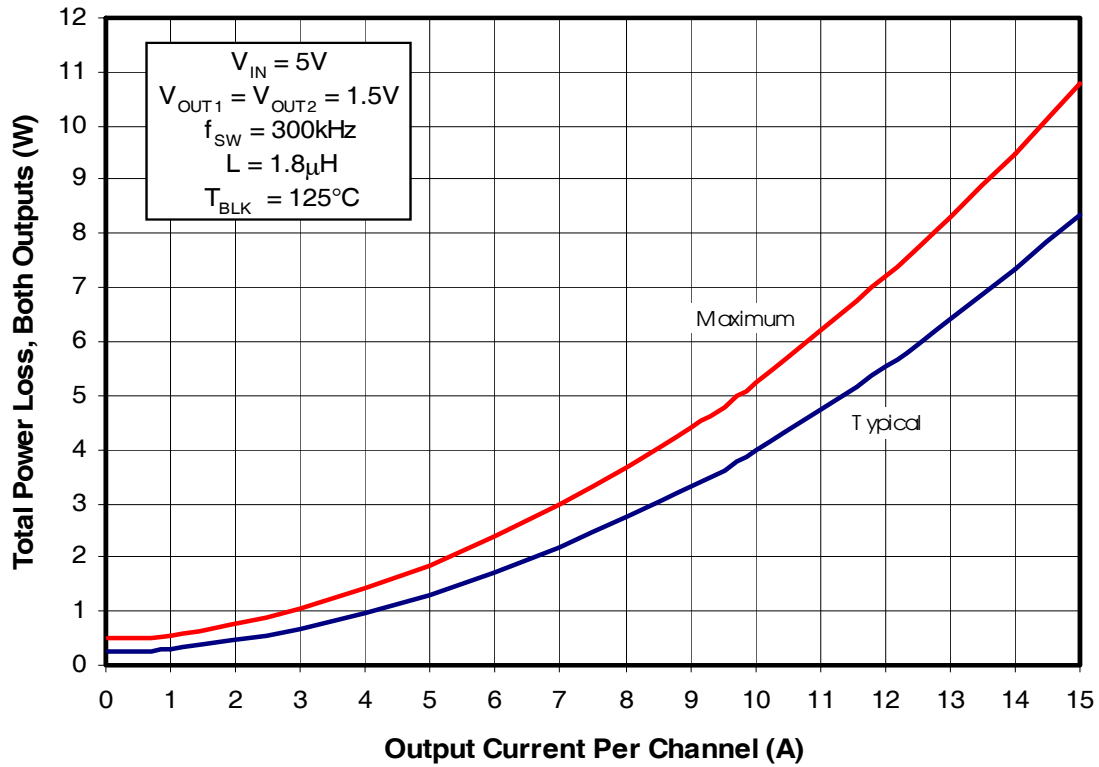

Fig. 2: Power Loss vs. Current
To make adjustments to the power loss curves in Fig. 2, multiply the normalized value obtained from the curves in Figs. 4, 5, 6 or 7 by the value indicated on the power loss curve in Fig. 2. Remember that the power loss in Fig 2. is the power loss for 2 outputs operating with the same output voltage. If differing output voltages are used the initial power loss for each channel needs to be divided by 2. Then if multiple adjustments are required, multiply all of the normalized values together, then multiply that product by the value indicated on the power loss curve in Fig. 2. The resulting product is the final power loss based on all factors. See example no. 1.
- Output1 (Fig. 2) Maximum power loss = 5.3W /2 = 2.65W
- Output2 (Fig. 2) Maximum power loss =  $8.25W / 2 = 4.13W$